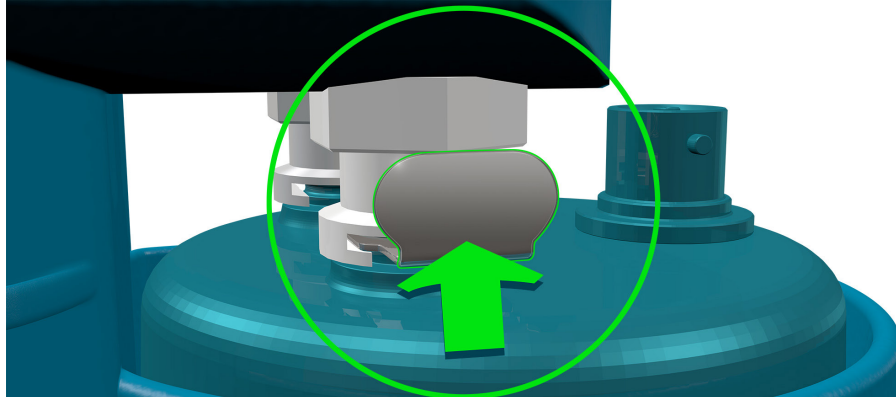

Figure 6
4. To remove the canister, press the Canister Release Button located above the canister (**Figure 6**), grasp the canister at the bottom and gently pull downward.